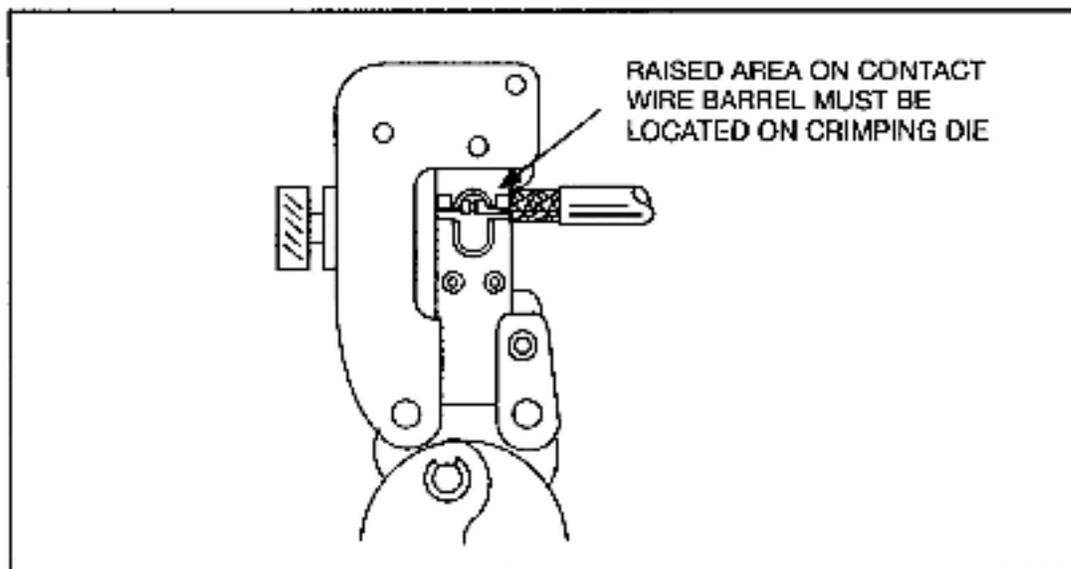

Figure 3.21 - Connector Installation Step 6 for RG-11/U Cable
- Step 6. Make sure that the raised area on the contact wire barrel is located on the crimping die for proper termination as shown in figure 3.21.